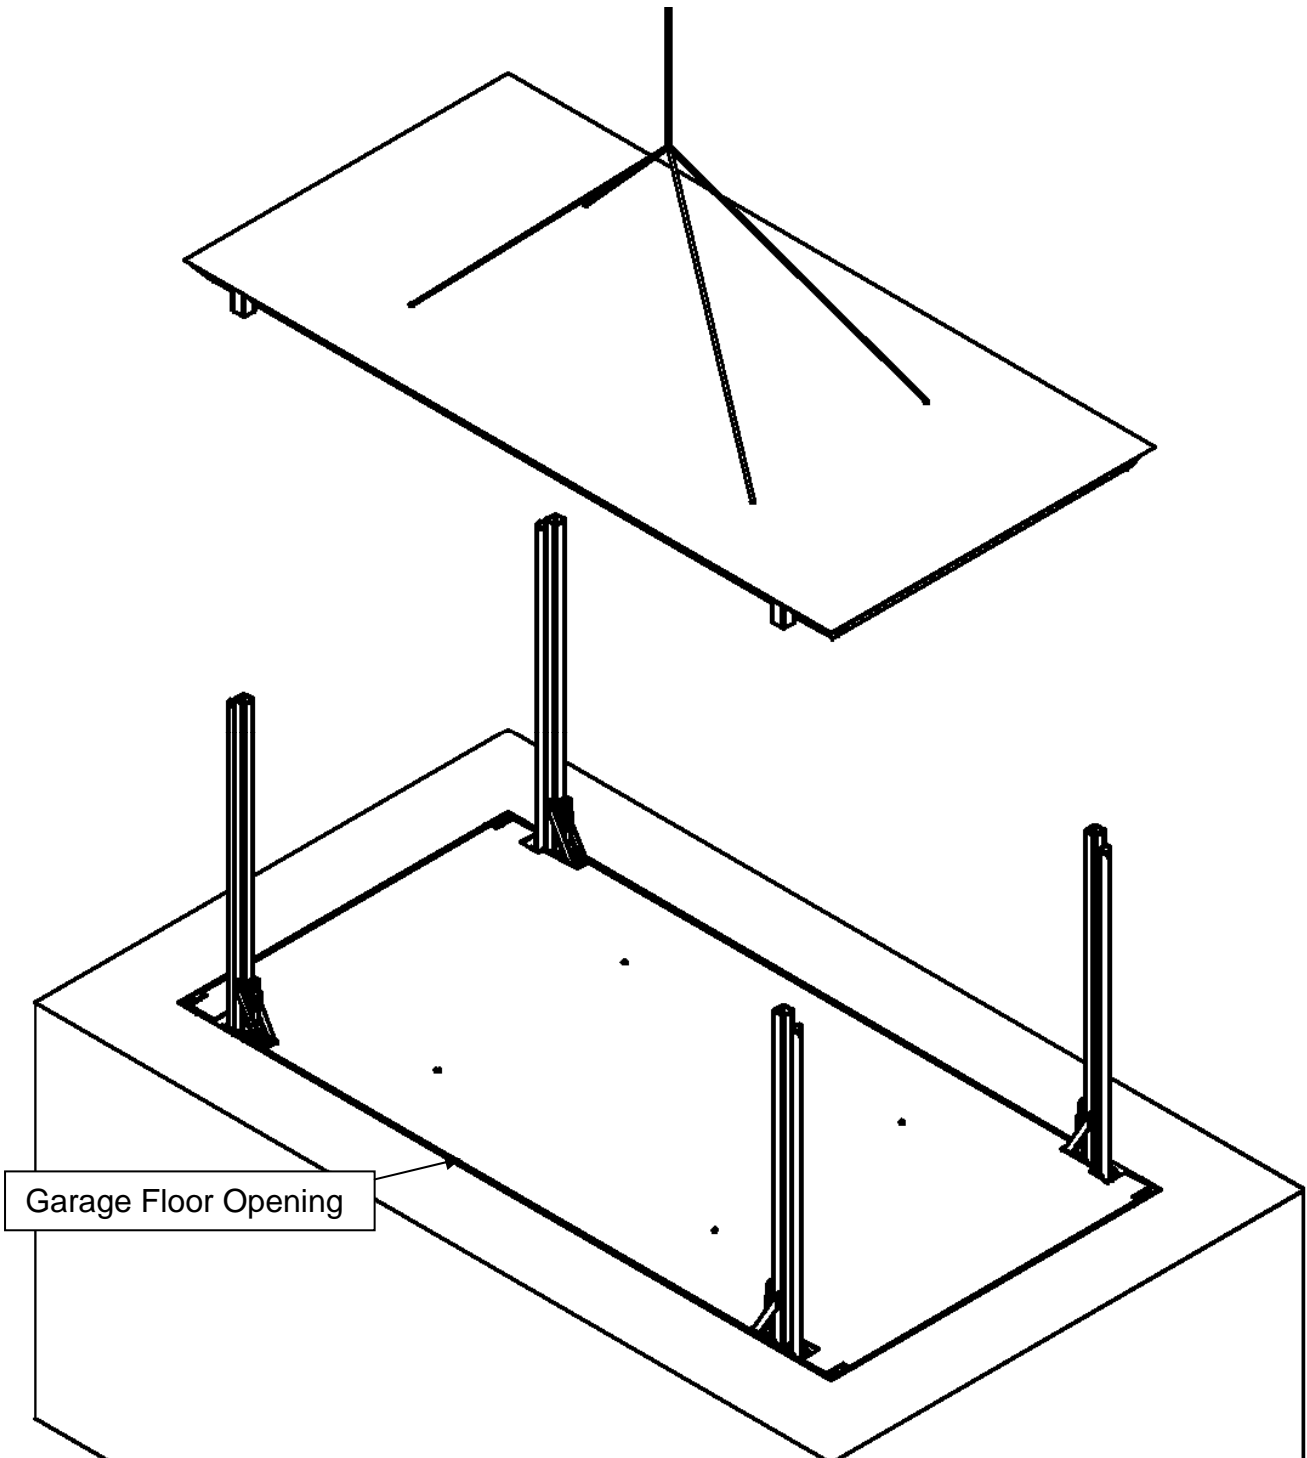

Figure 32 Canopy (Upper Deck) Installation Detail
I. ATTACHING THE UPPER DECK (Reference Figures 32 & 33)